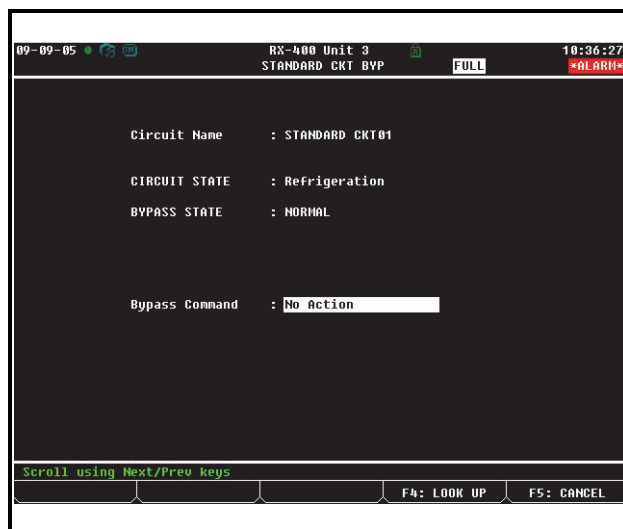

Figure 12-14 - Circuit Bypass Screen (RX-400 Version Shown)
4. The Circuit Bypass screen (see **Figure 12-14**) will display the circuit name, its current state, and the bypass state. The **Bypass Command** field will be highlighted.